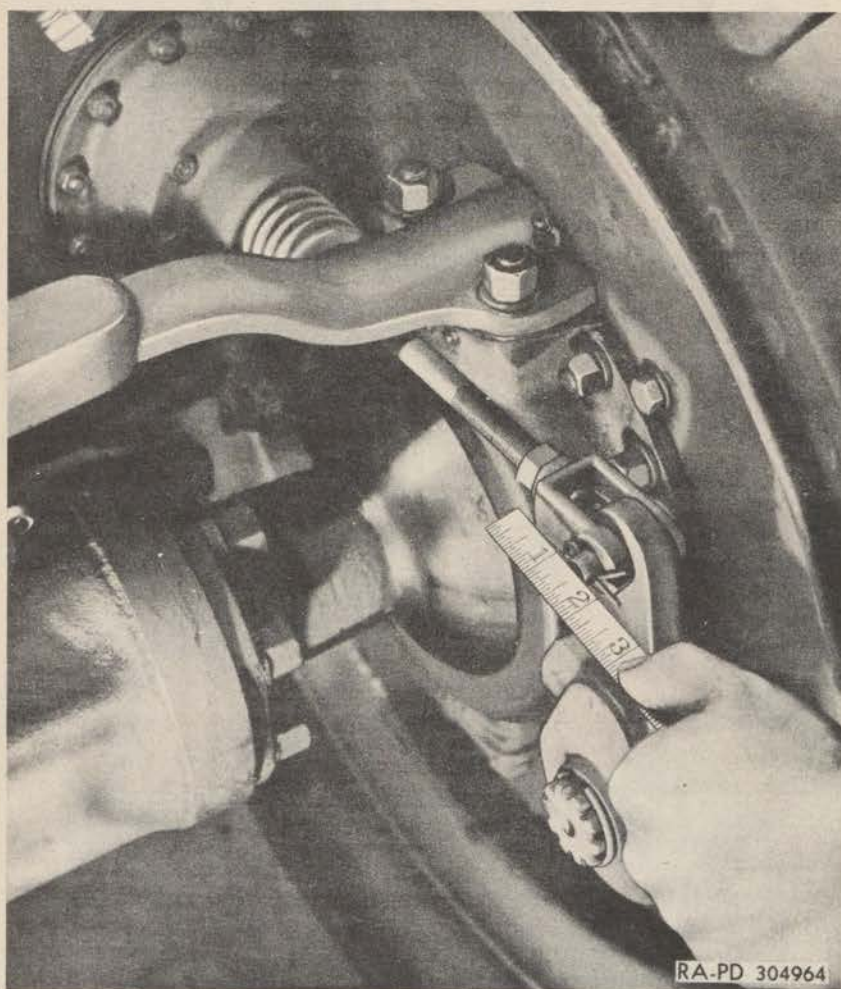

Figure 116—Measuring Push Rod Travel
adjustment at the heel. In general, the need of a brake adjustment is indicated when the front brake push rod travel is close to or exceeds $1\frac{3}{8}$ inch, and when the rear brake push rod travel is close to or exceeds $1\frac{3}{4}$ inch (fig. 116).
(4) **CHECK BRAKE CHAMBER PUSH ROD TRAVEL.** When the adjustment is complete, measure the push rod travel, holding a scale alongside of the slack adjuster arm (fig. 116). Then apply the brakes. If adjustment is correct, push rod travel should be around $\frac{5}{8}$ inch for the front brake chamber and around $\frac{3}{4}$ inch for the rear brake chamber.